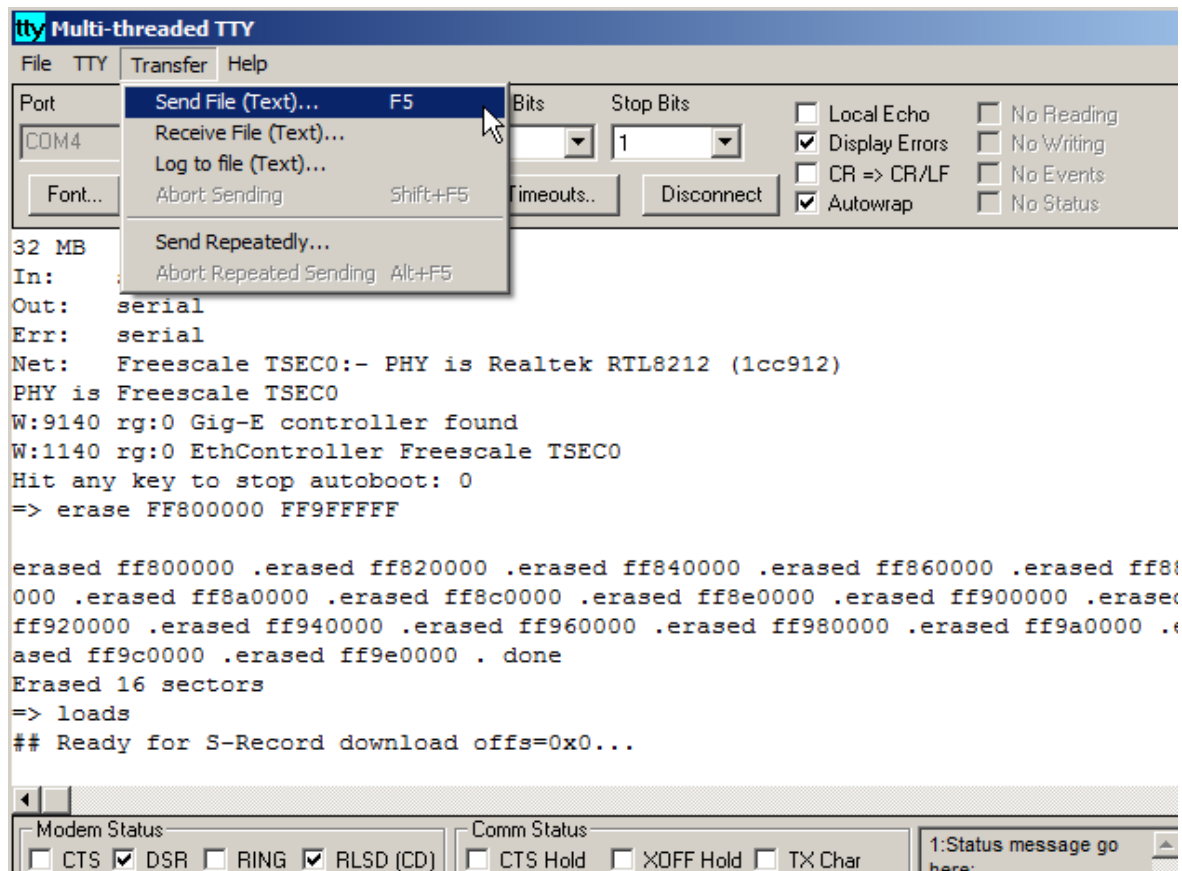

Figure 3-13. Firmware Update via Serial Port
- STEP 5:** Type the commands shown below to erase firmware storage area in the Flash memory and load the new firmware (refer to Figure 3-13):
STEP 6: Do the following to transfer the Motorola firmware image file (refer to Figure 3-13):